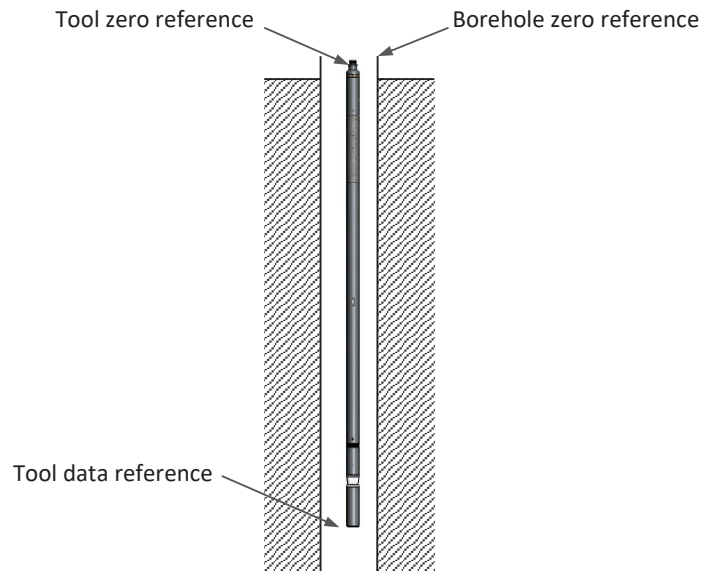

Figure 3.12 – Tool zero references
- Lower the tool into the borehole until the cable head / tool top connection lines up with the borehole zero reference (Figure 3.12).